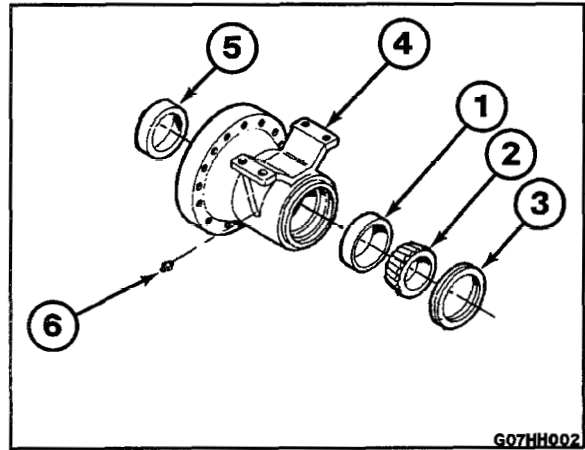

Figure 60
15. Remove bearing cup (5, Figure 60) from inboard end of final drive housing (4).
16. Remove grease seal (3, Figure 60), bearing cone (2) and bearing cup (1) from outboard end of final drive housing (4).
17. Remove grease fitting (6, Figure 60) from final drive housing (4), if replacement is necessary.